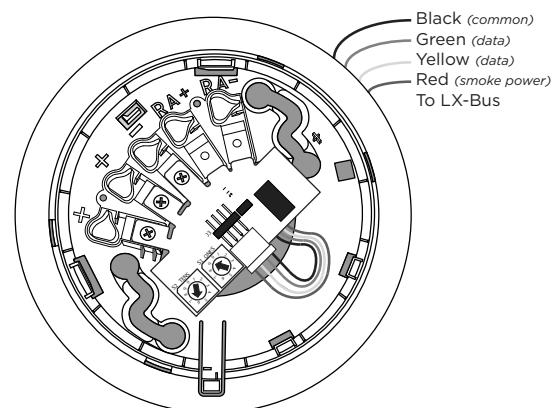

Figure 4: 2W-BLX/2WT-BLX Wiring
2. Connect the 4-wire harness to the 4-pin header according to the wiring diagram in Figure 4.